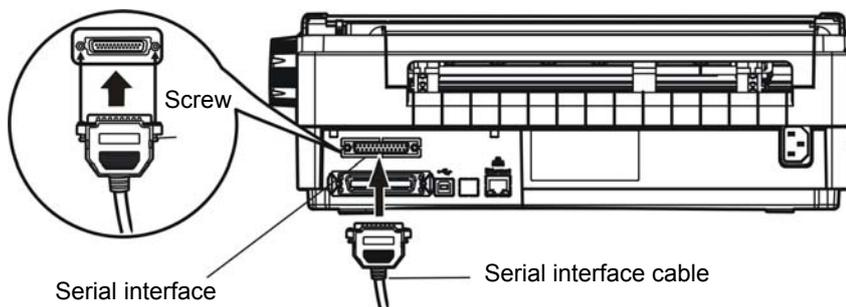

Figure 1-15 Connect to serial interface
1. Turn off both the computer and the printer. Plug the serial interface cable into the printer's serial interface. Tighten the screws on both sides of the connector and make the connector fixed. (As shown in figure 1-15)